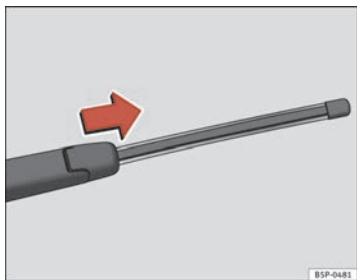

Fig. 164 Remove rear window wiper blade
- Lift the wiper arm away from the glass ⇒ page 225, fig. 164.
- Slide the blade adapter in the direction of the arrow and remove the blade ⇒ page 225, fig. 164.